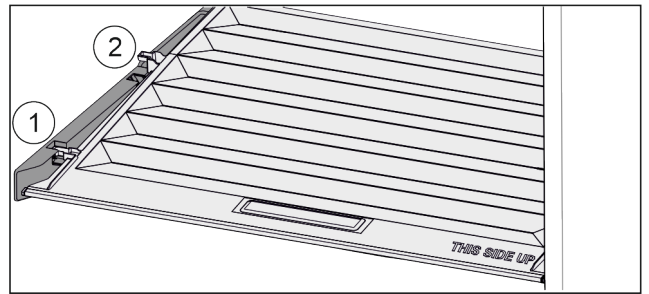

Fig. 97
- ▶ Pull the lid up at the front to the opening in the retaining parts Fig. 97 (1).
- ▶ Lift from the back and pull it up and out Fig. 97 (2).